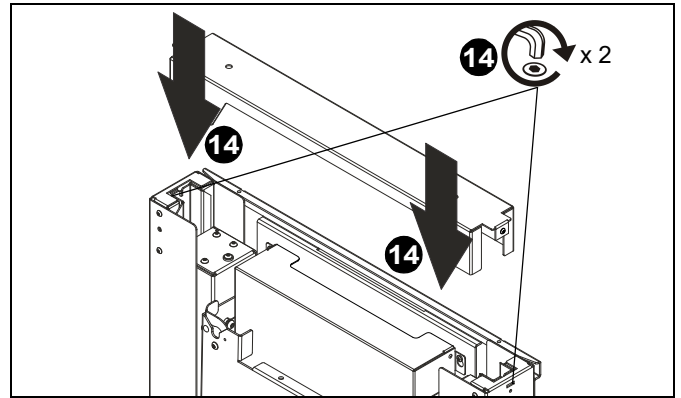

Figure 30
15. Re-install top cover and tighten button head cap screws to secure it in position. (See Figure 30)